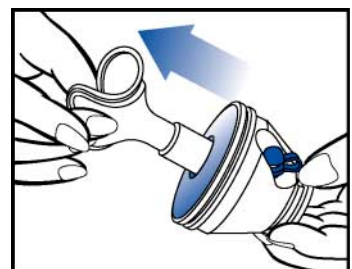

Figure 6
6. Push small end of liner through nipple channel, pulling liner out from wide end. See **Figure 6**.